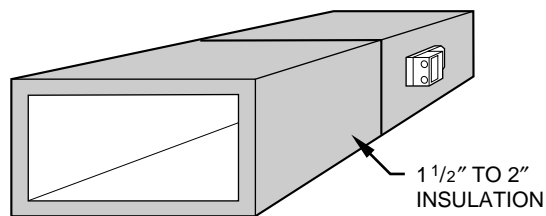

Fig. 8 — Insulated Rectangular Fibrous Glass Duct Work
4. If dampers are applied in an unconditioned space, insulate damper using 1-1/2 inch to 2 inch insulation (See Fig. 8).